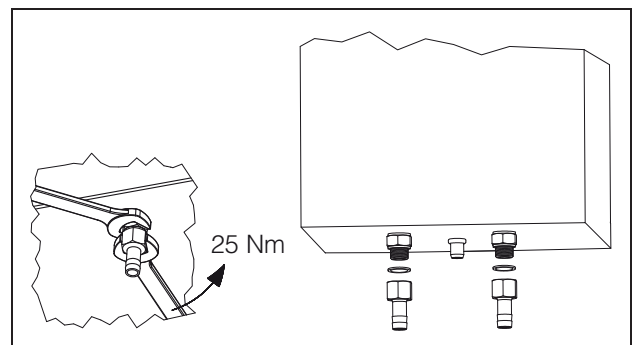

Fig. 16: Remove the connector sleeve
- To this end, you will need to remove the connector sleeve attached to the device (see fig. 16).
- To this end, you will need to remove the connector sleeve attached to the device (see fig. 16, page 9).